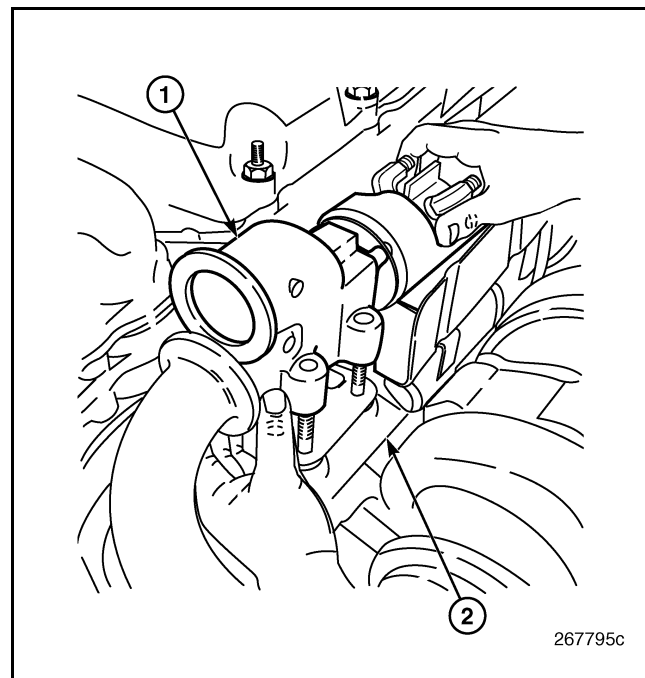

Figure 147 — EGR Valve Removal
4. Remove the four nuts retaining the EGR valve assembly to the exhaust manifold and remove the valve assembly (Figure 147). Remove and discard the metal gasket from the manifold.